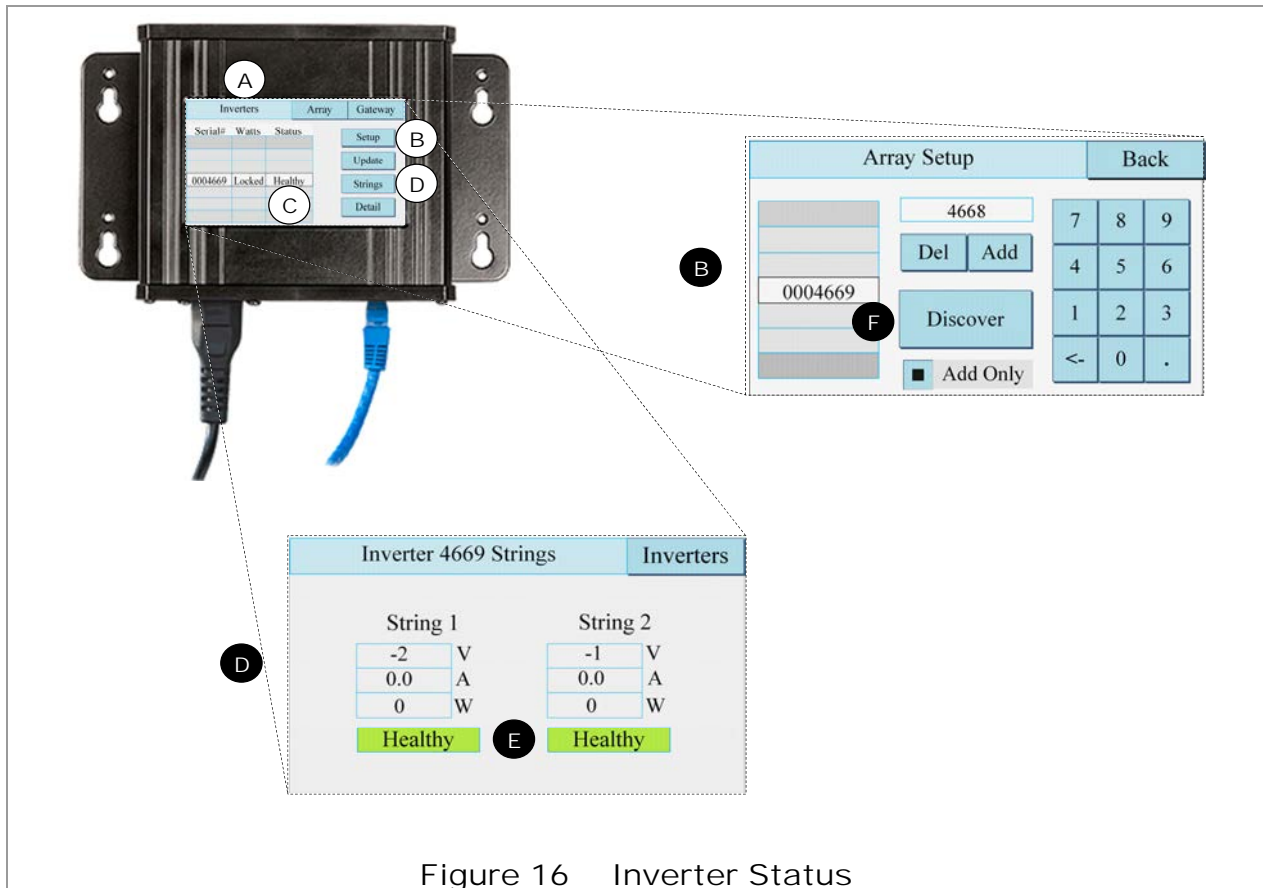

Figure 16 Inverter Status
4. On the Gateway screen, select the **Inverters** tab A at the top of the screen if it is not already selected. (See Figure 16. Also, see pages 23 and 26 for Gateway navigation and inverter states.)